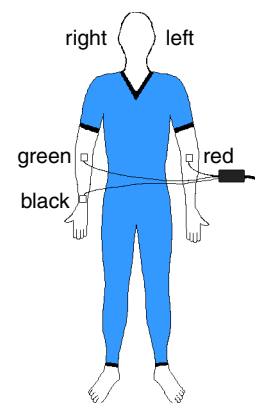

Figure 1
3. Apply three electrode patches to the subject's arms and clip the leads to the electrodes patches as illustrated in Figure 1.
2. Apply adhesive electrode patches to the right wrist, right forearm just below the elbow, and left forearm just below the elbow (Figure 1). Press the patches firmly for best adhesion and signal quality.